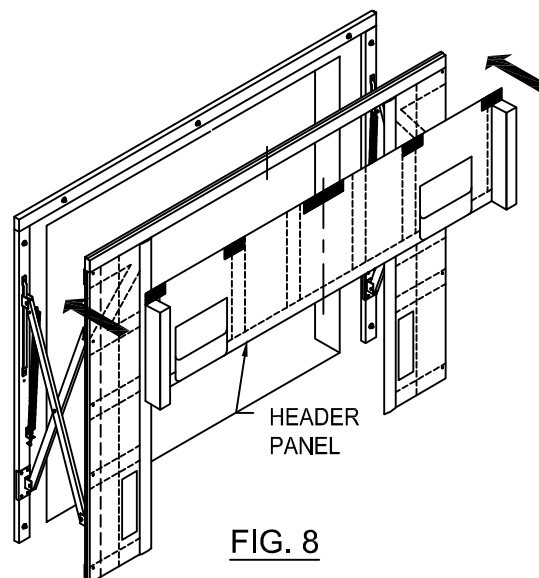

FIG. 8
- * Using #10x3/4" hex washer tek screw; attach header curtain from center and work outwards by screwing beside each stay (FIG. 8).